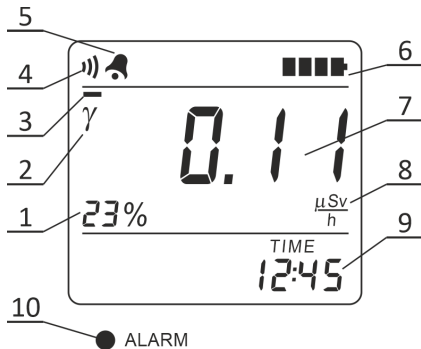

Figure 2.1 – LCD of the radiometer
Irrespective of the chosen operating mode, the radiometer carries out a non-stop control of batteries status. The results of control are displayed on the LCD with a battery status symbol  (6) (Figure 2.1), which consists of four segments.
2.3.3.6.5 The following information is displayed on the LCD of the radiometer (Figure 2.1):
- estimated limit of the expected relative statistical deviations (1) of the measurement result (7) with a confidence probability of 0.95, hereinafter - the estimated limit of statistical deviations;
- “ $\gamma$ ” symbol (2) – an indication of the measured radiation type;
- instantaneous value indicator of the radiation intensity (3);
- sound symbol (4) (if audio signaling of detected gamma quanta is switched on);
- alarm clock symbol (5) (if the alarm clock is on);
- battery status symbol (6);
- measurement result (7);
- dimension of measurement result (8)  $\mu\text{Sv/h}$ ,  $\text{mSv/h}$  or  $\text{cps}$ ;
- current time (9).
2.3.3.6.7 If the measurement results exceed the alarm threshold level, the radiometer sends a two-tone sound signal and starts blinking with the red ALARM LED (10). Measurement results start blinking on the LCD of the radiometer. Periodic and gradual (from left to right) highlighting of the sound symbol segments (4) serves as an indication of the threshold level exceeding as well (Figure 2.1).